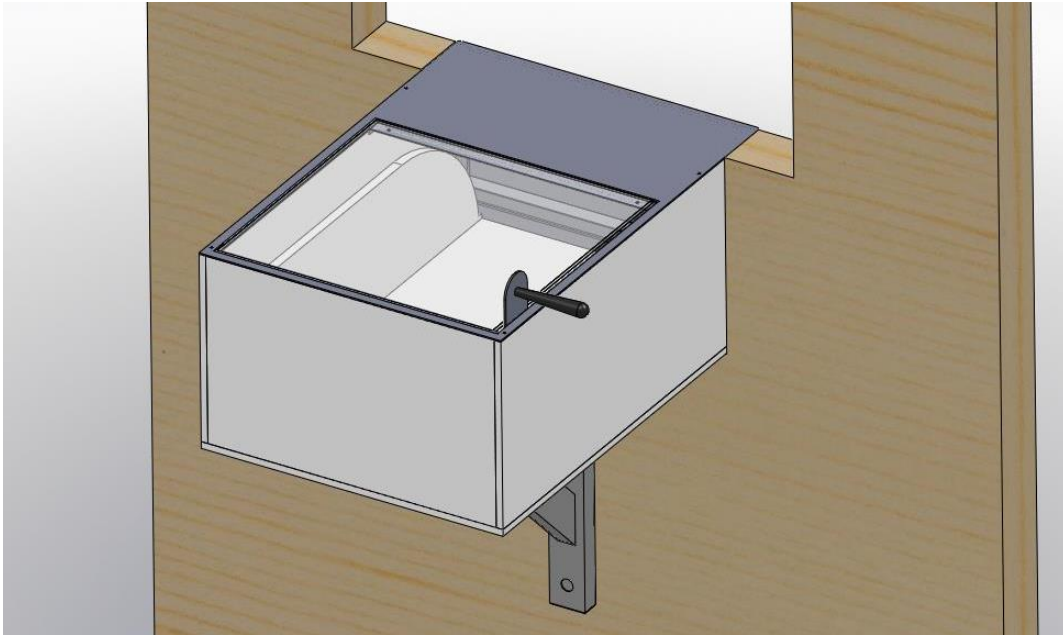

Figure 10. Reinstall the cover plate after mounting the drawer assembly
- E. Test the drawer to ensure that the screws do not obstruct the sliding action. Once satisfied, reinstall the cover plate on top of the drawer assembly (**Figure 10**).